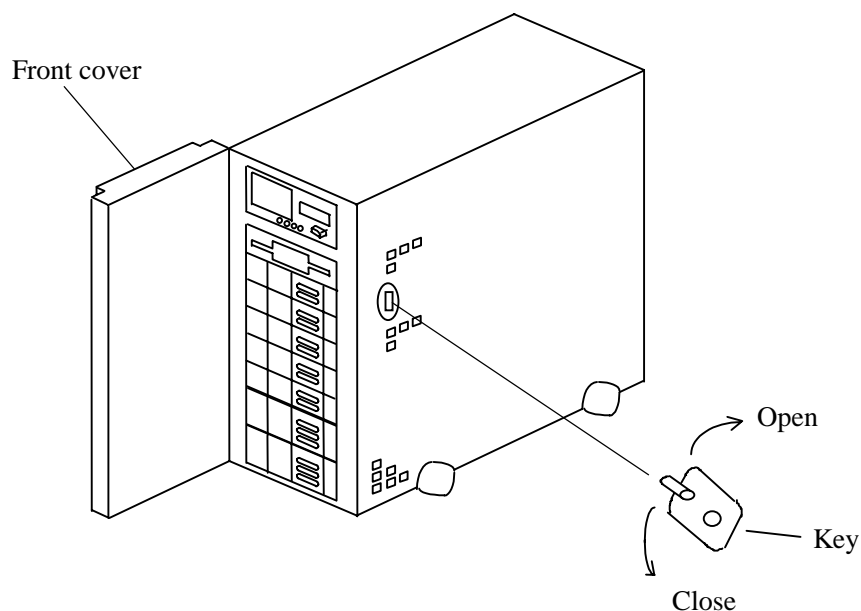

Figure 4.2.1 Opening/Closing Front Cover
(1) Opening/closing the front cover (See Figure 4.2.1.)